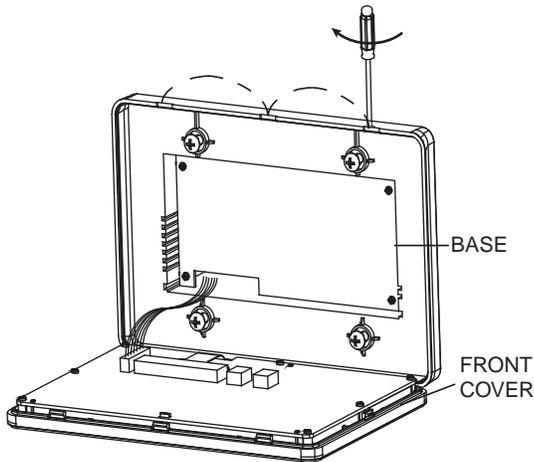

Fig. 2 — Opening Back Mounting Plate
- Insert a flat-head screwdriver into the slots provided on the top of the controller to open the back mounting plate. See Fig. 2.